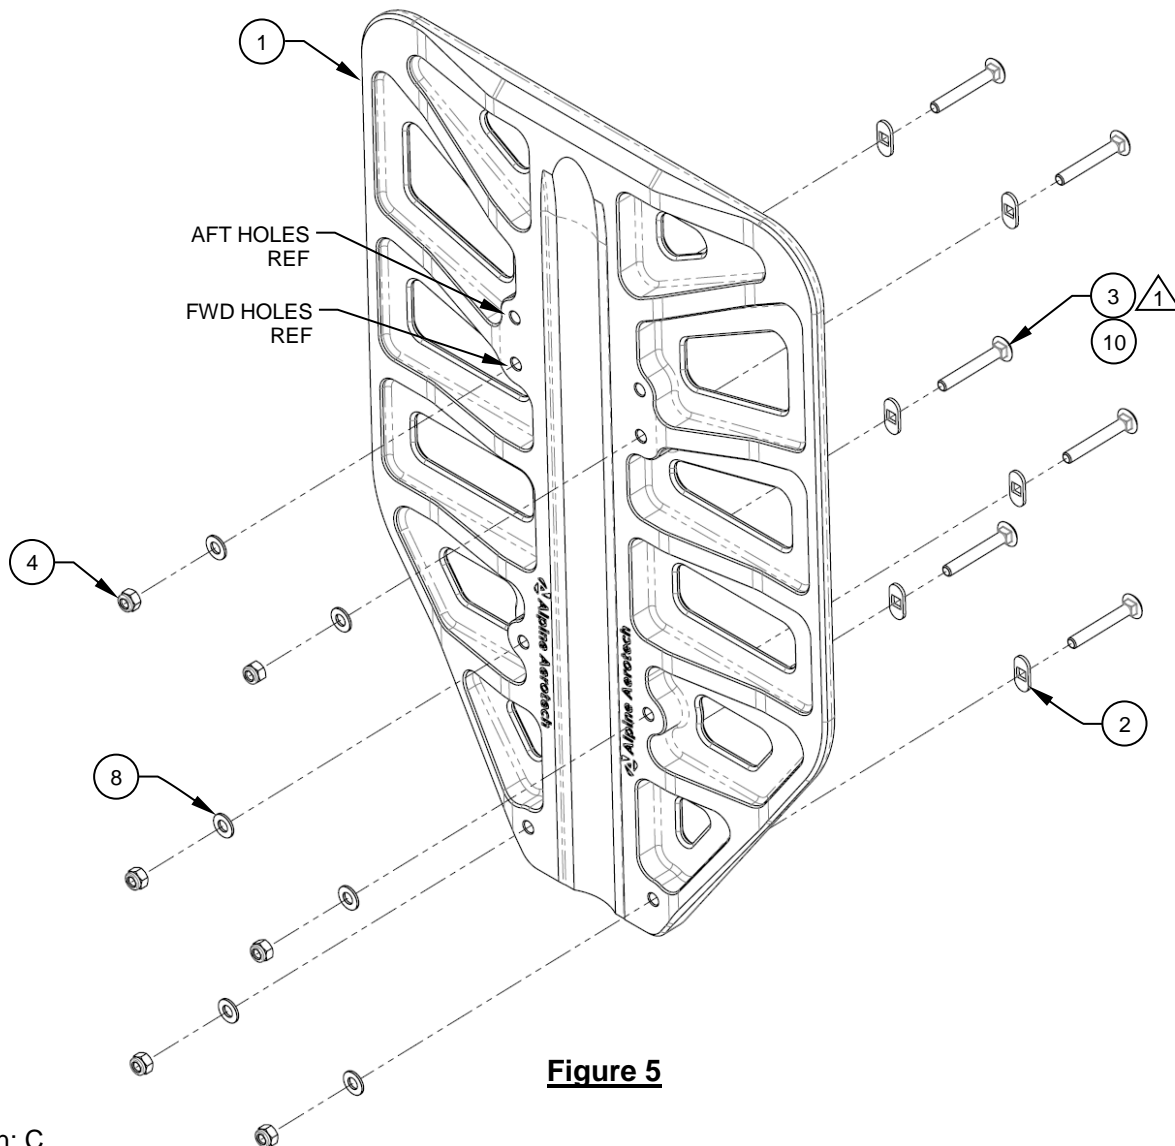

Figure 5
1. Pre-install the supplied hardware as shown. Reference Figure 5. Torque fasteners to 40 in-lbs. (plus tare torque).
NOTE: Regardless of standard, or Run-On Landing wear strips, the length of the skid shoe varies. Depending on where the skid shoe cross bolt is located, the aft most set of Carriage Bolts (Items 3 or 10) will have to be located in either the AFT or FWD set of holes, a trial fit will be required to determine the best location. See Figure 5.